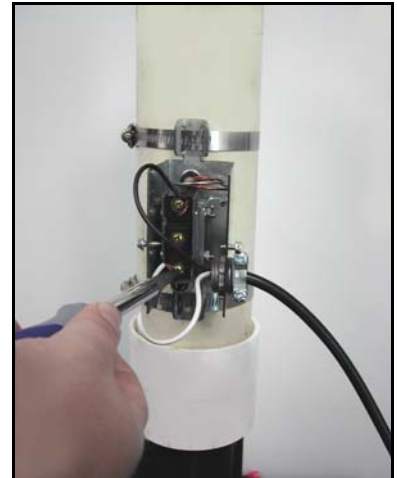

Figure 8
connectors on the solenoid valve and route the wires from the solenoid valve connections to the common terminal and the normally close (NC) terminal on the LS-140A limit switch (See Figure 8). Also route installers supplied green grounding wire from the LS-140A limit switch and connect to any convenient grounding surface at the gas valve.